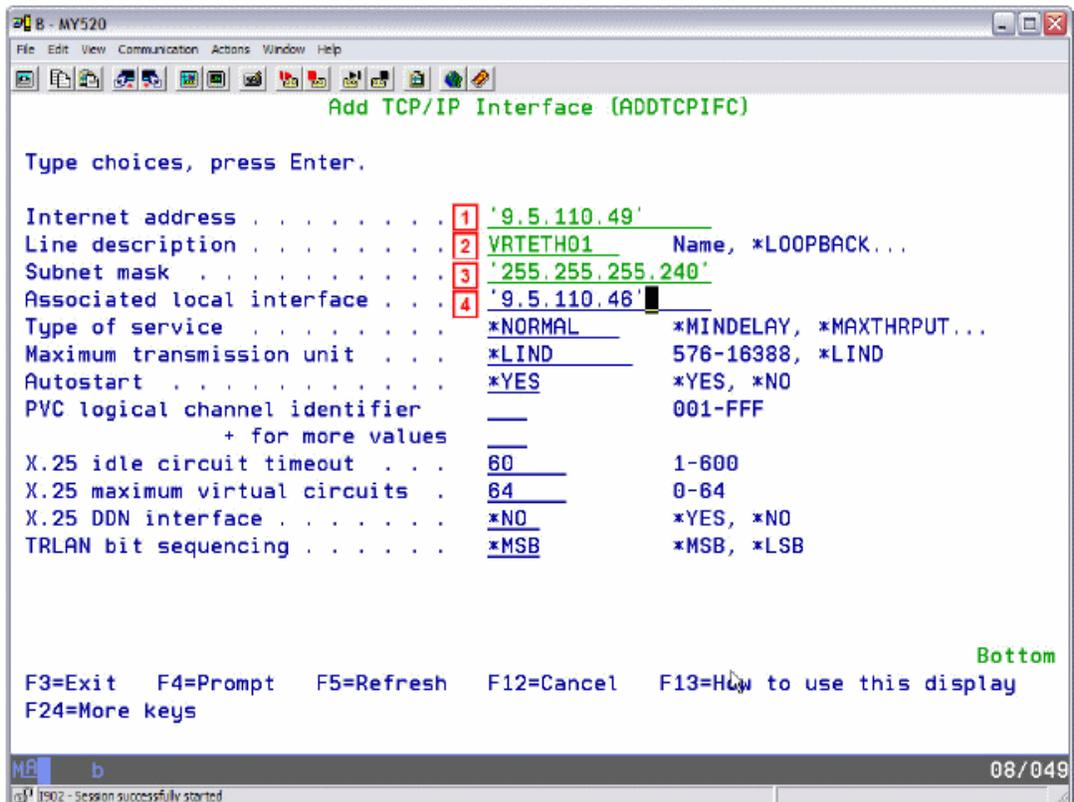

Figure 13-23 Add TCP/IP interface
- Create the TCP/IP interface for the i5/OS network adapter for the virtual LAN. To create the TCP/IP interface, type the command **ADDTCPIFC** (Add TCP/IP Interface) as seen in Figure 13-23.